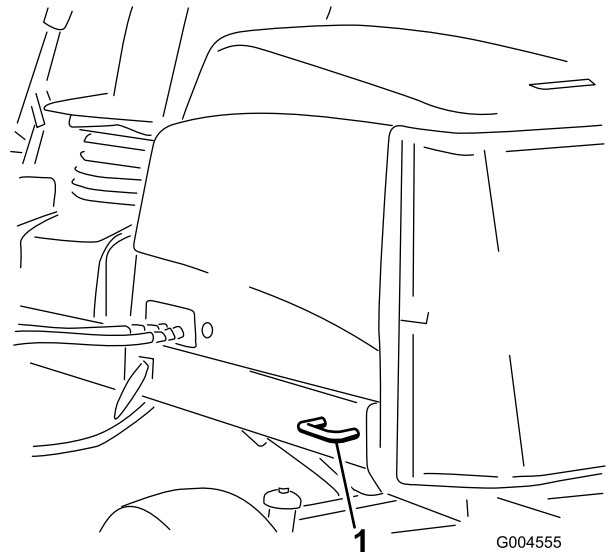

Figure 25
- **Rear of the machine**—each side of the machine on the rear frame (Figure 25).